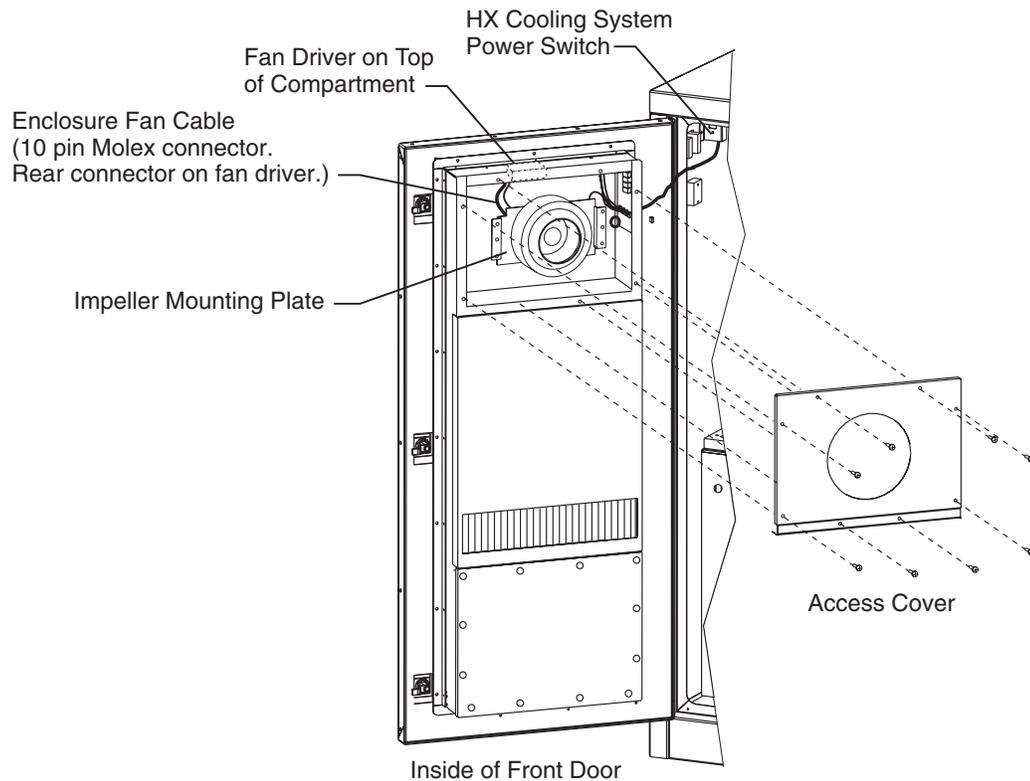

Figure 8-1: Removing Enclosure Fan Access Cover
1. Turn off power to the heat exchanger by turning off the HX Cooling System power switch. See Figure 8-1.